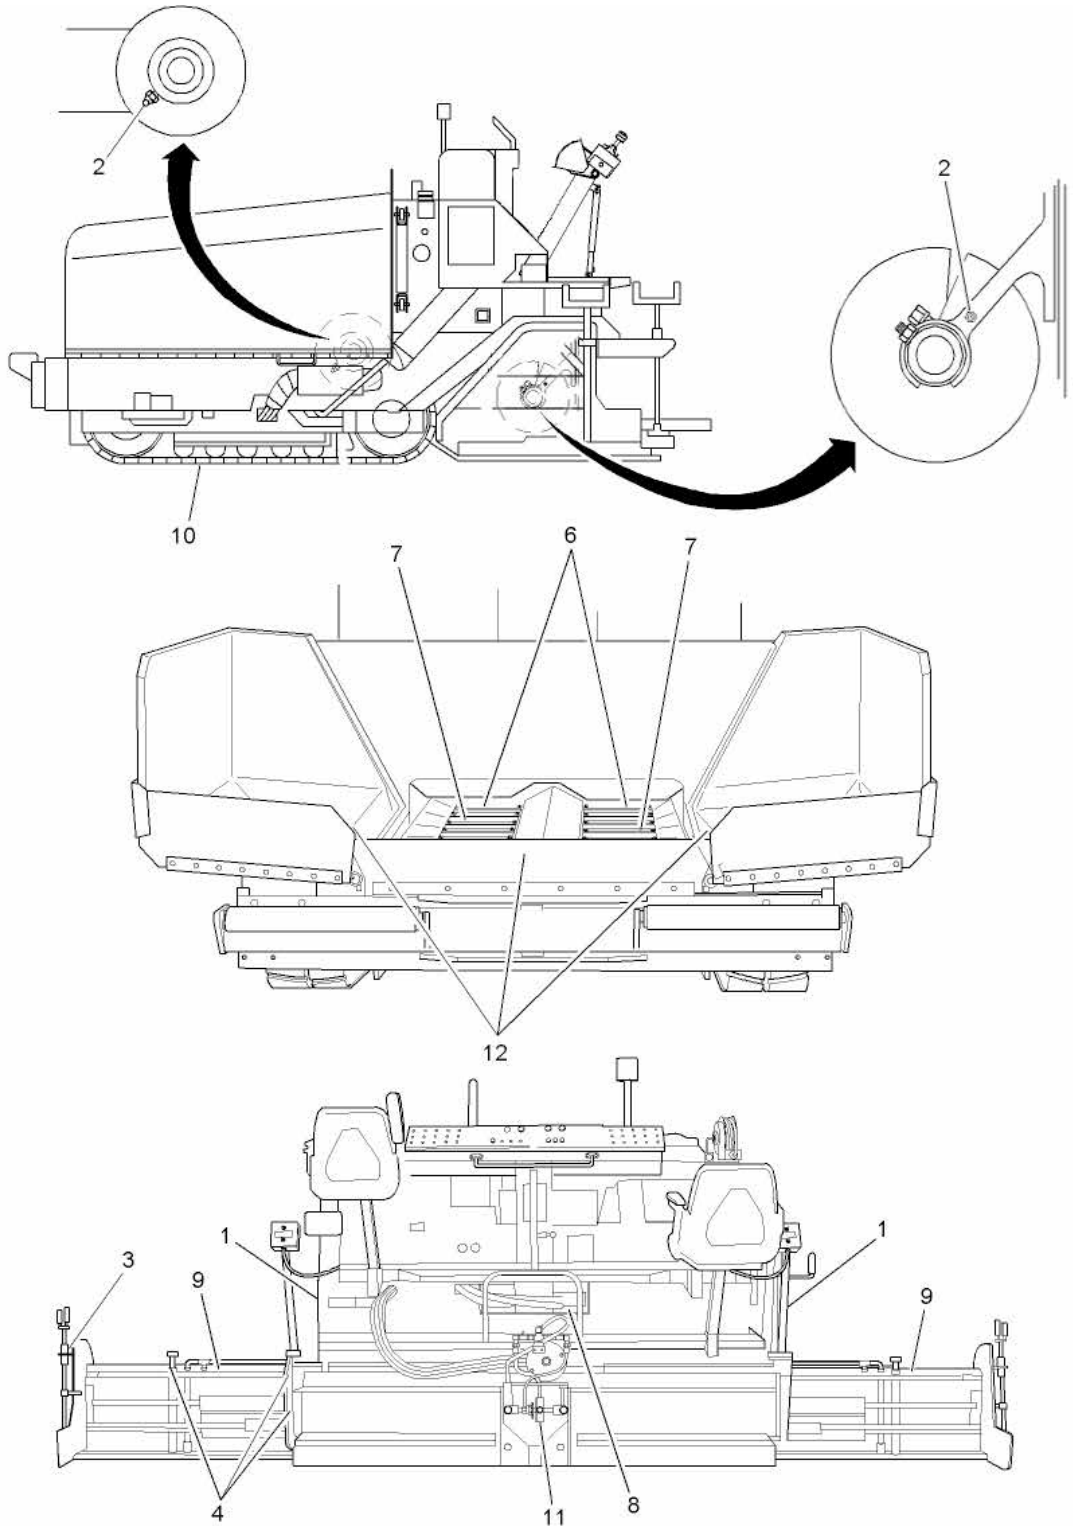
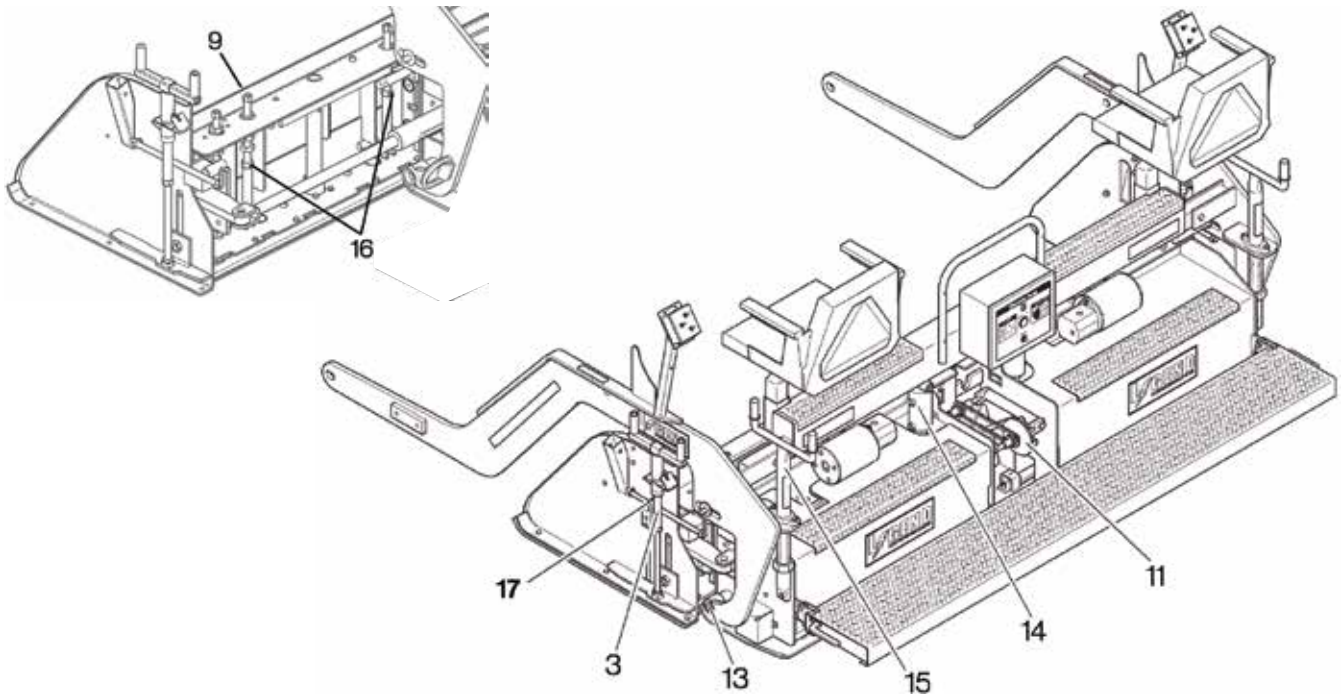

Figure 5-1. Lubrication Points
Figure 5-2. Lubrication Points
Proper lubrication is necessary to maintain the LeeBoy Model 8515C Conveyor Paver at top efficiency. Refer to the lubrication information in **Table 5-2. Lubrication Points Schedule**. All lubrication points are shown in **(Figure 5-1 and Figure 5-2)**.
6. For both sides of the screed, lubricate all grease fittings on the flight screw, the fitting on the depth screw, and the fittings on the flange bearings located on top of the extension screed (Figure 5-1; Figure 5-2). Grease nuts on extension screws.